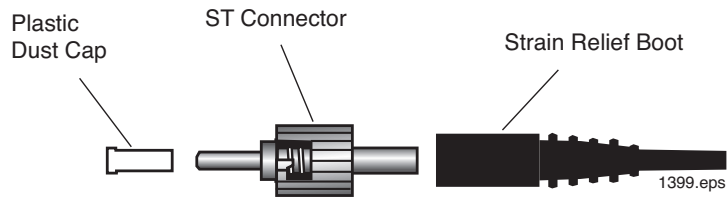

Figure 1. Three components of the ST connector.
3. The ST connector assemblies that you will use in this activity consist of three parts as shown in Figure 1. Each assembly contains a black rubber strain relief boot, stainless steel connector body and a plastic dust cap. The connector body is an assembly with a long cylindrical tube (the ferrule), and a spring-loaded locking ring held in place by a C-ring.